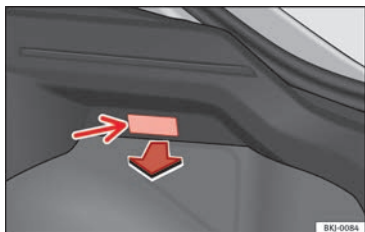

Fig. 121 Boot light.
- Extract the bulb by pressing on its inside edge -arrow- using the flat side of a screwdriver»» **Fig. 121**.